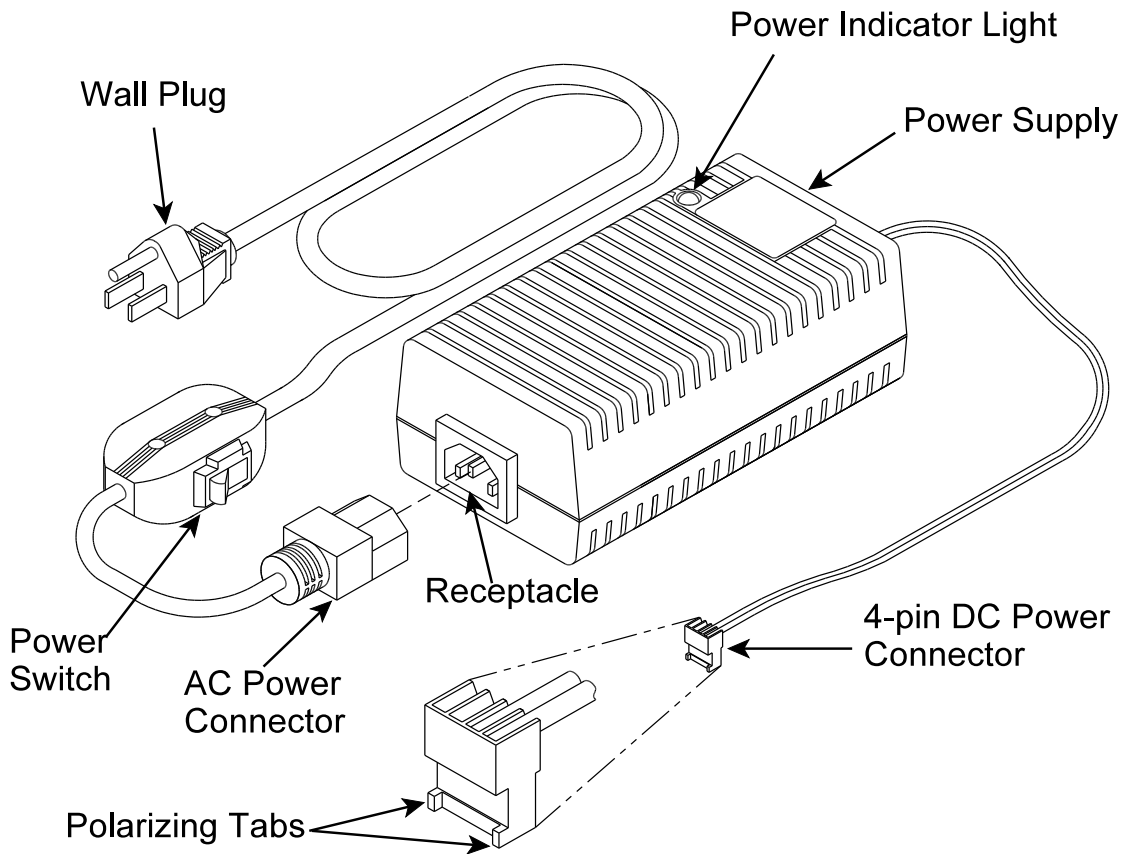

Figure 3-3 24 Vdc Power Supply P/N 17732
1. 24 Vdc Power Supply, P/N 17732, with power cables (Figure 3-3)
The 24 Vdc power supply, P/N 17732, is provided with two cables as shown in Figure 3-3. The 24 Vdc cable is integral to the supply and has a 4-pin connector attached. This cable connects to the pump via the Card Edge Adapter. Plug the 4-pin connector into the Adapter board connector labeled “POWER”. Observe the locking tab polarization.
A separate cable is provided to connect the power supply to an AC power source. This cable has a power **Switch**, a 3-prong **Wall Plug**, and a 3-pin **Power Connector**. Plug the 3-pin Power Connector into the mating **Receptacle** in the power supply, as in Figure 3-3. Plug the Wall Plug into a wall power socket.